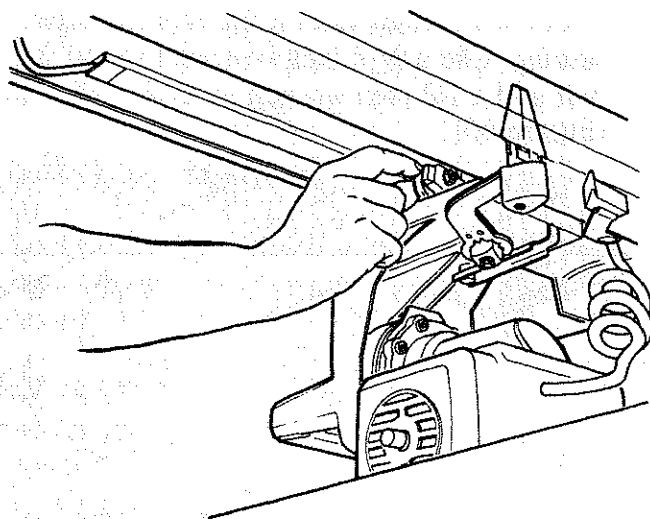

Fig. 67
12. Pinch the *front carriage bearing* with your fingers as tightly as possible while you pull the *motor* forward with the other hand. Try to keep the *carriage bearing* from turning. (Figure 67)